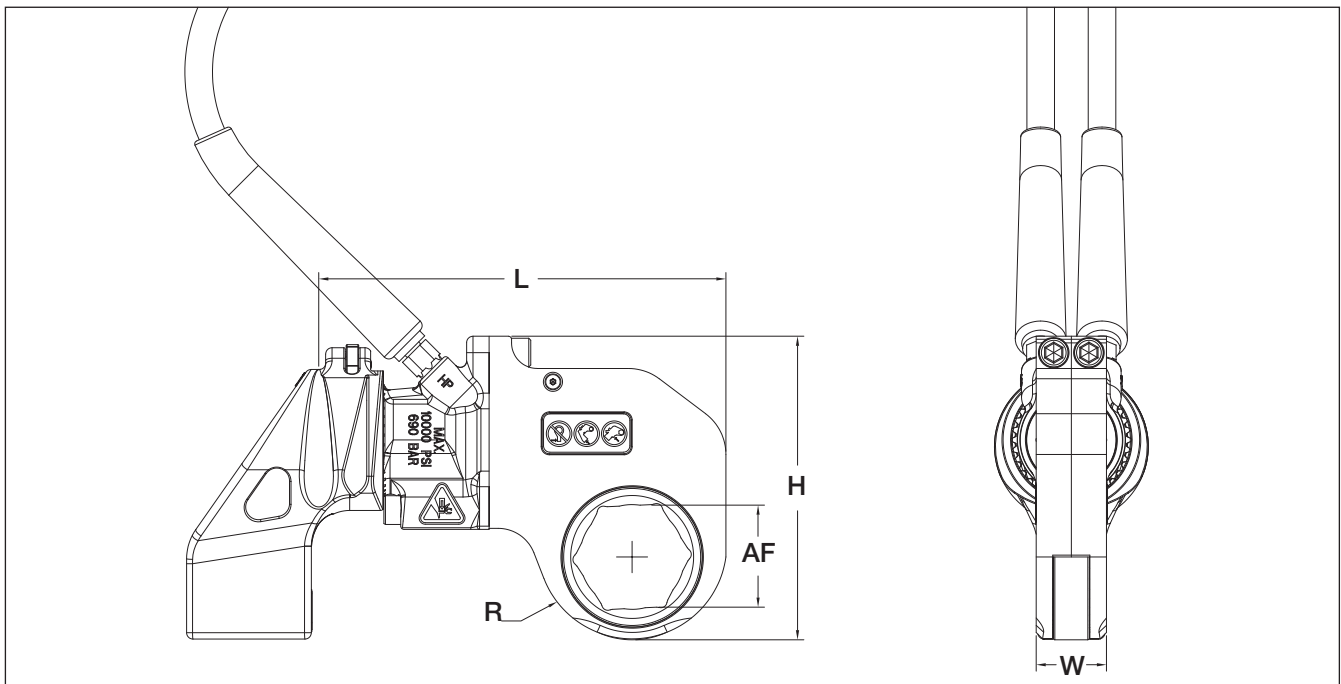

Fig. 7.1-1
7.2.1 Imperial System Table - RSL Hexagon Cassette (see Fig. 7.1-1 for locations of dimensions AF, R, L, H and W)
7.2.1 Imperial System Table - RSL Hexagon Cassette [continued] (see Fig. 7.1-1 for locations of dimensions AF, R, L, H and W)